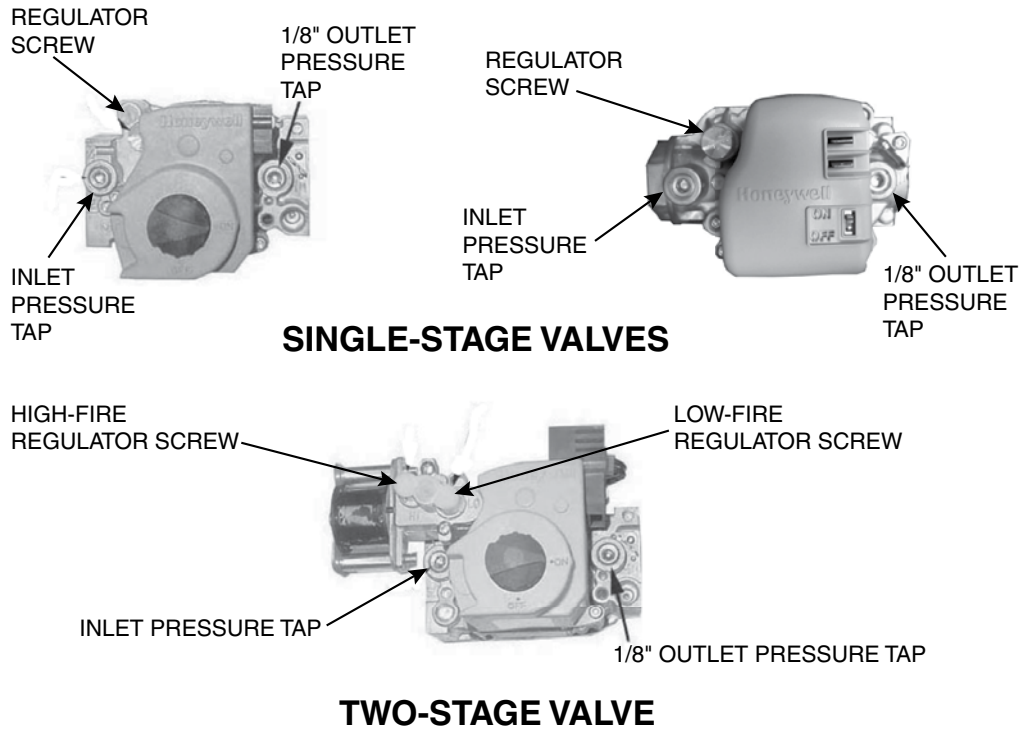

Figure 15. Gas Valves
2. Connect manometer to 1/8-inch output pressure tap on valve (see Figure 15).
5. If manometer reading does not indicate that valve outlet pressure is in accordance with Table 21, remove cap from regulator screw(s) (see Figure 15) and adjust pressure by turning regulator screw IN (clockwise) to increase pressure or OUT (counterclockwise) to decrease pressure.
4. Connect manometer to 1/8-inch output pressure tap on valve (see Figure 15).
- b. Remove cap from regulator screw (see Figure 15) and adjust pressure in accordance with Table 21 by turning regulator screw IN (clockwise) to increase pressure or OUT (counterclockwise) to decrease pressure.
- b. Remove cap from low-fire regulator screw (see Figure 15) and adjust pressure in accordance with Table 21 by turning regulator screw IN (clockwise) to increase pressure or OUT (counterclockwise) to decrease pressure.
10. Connect manometer to inlet pressure tap (see Figure 15). While heater is operating, measure inlet pressure, which should be between 5 and 13.5 IN WC for natural gas or between 11 and 13.5 IN WC for propane.